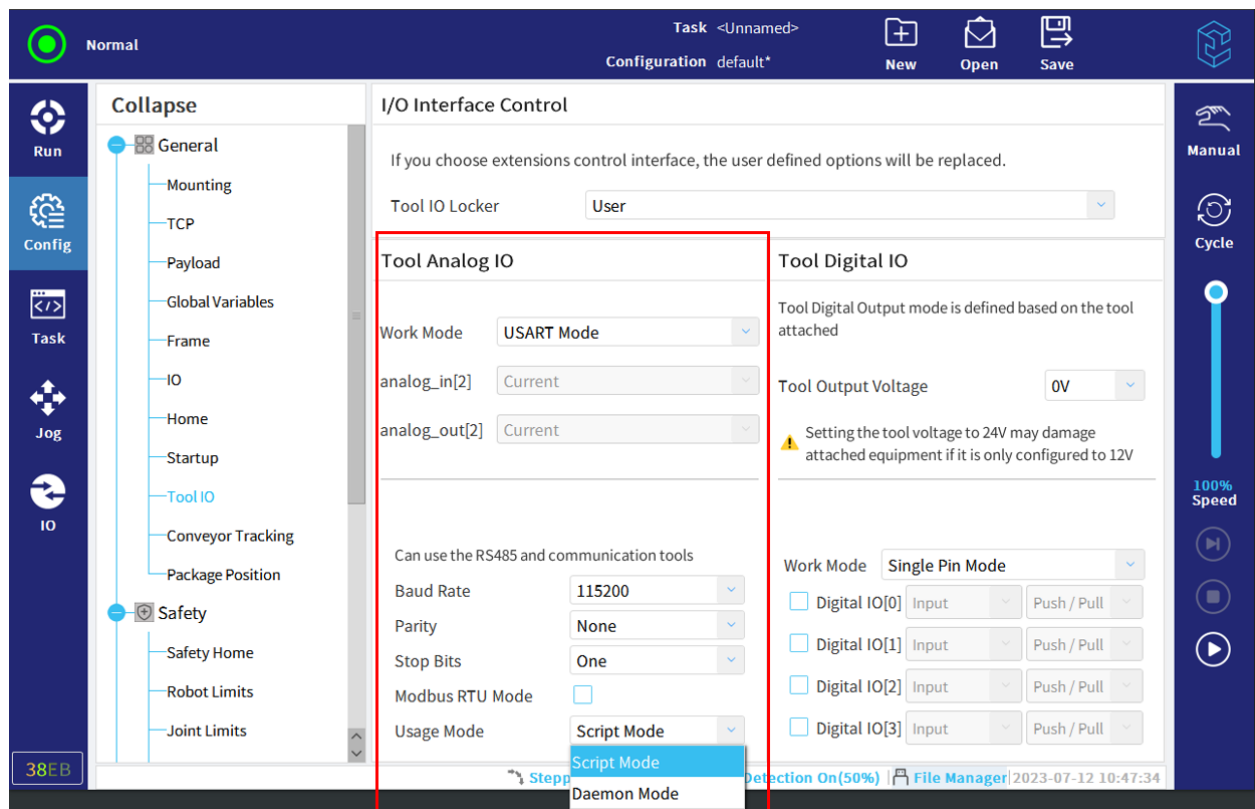

Figure 11-17 Tool analog IO
1. Click "Config > General > Tool IO" to enter the "Tool Analog IO" interface, as shown in Figure 11-17.